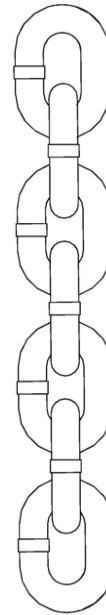

Figure 6-11 Plane of End Links
- 6.5.4 Verify load and hand chains (if installing new hand chain) are the correct length and all end links are in the same plane. Refer to figure 6-11.